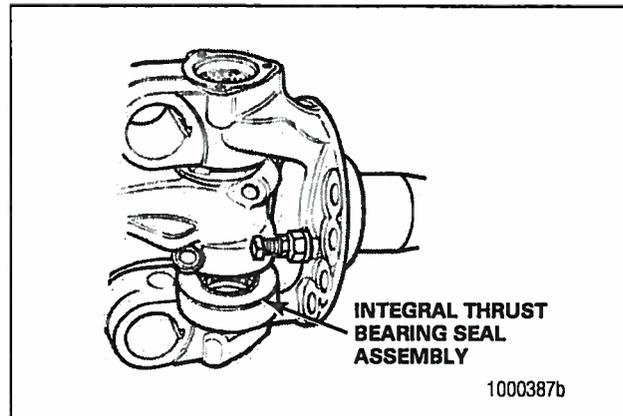

Figure 3
- A. Install the thrust bearing, making sure it is oriented so that the seal is at the top. Figure 3.